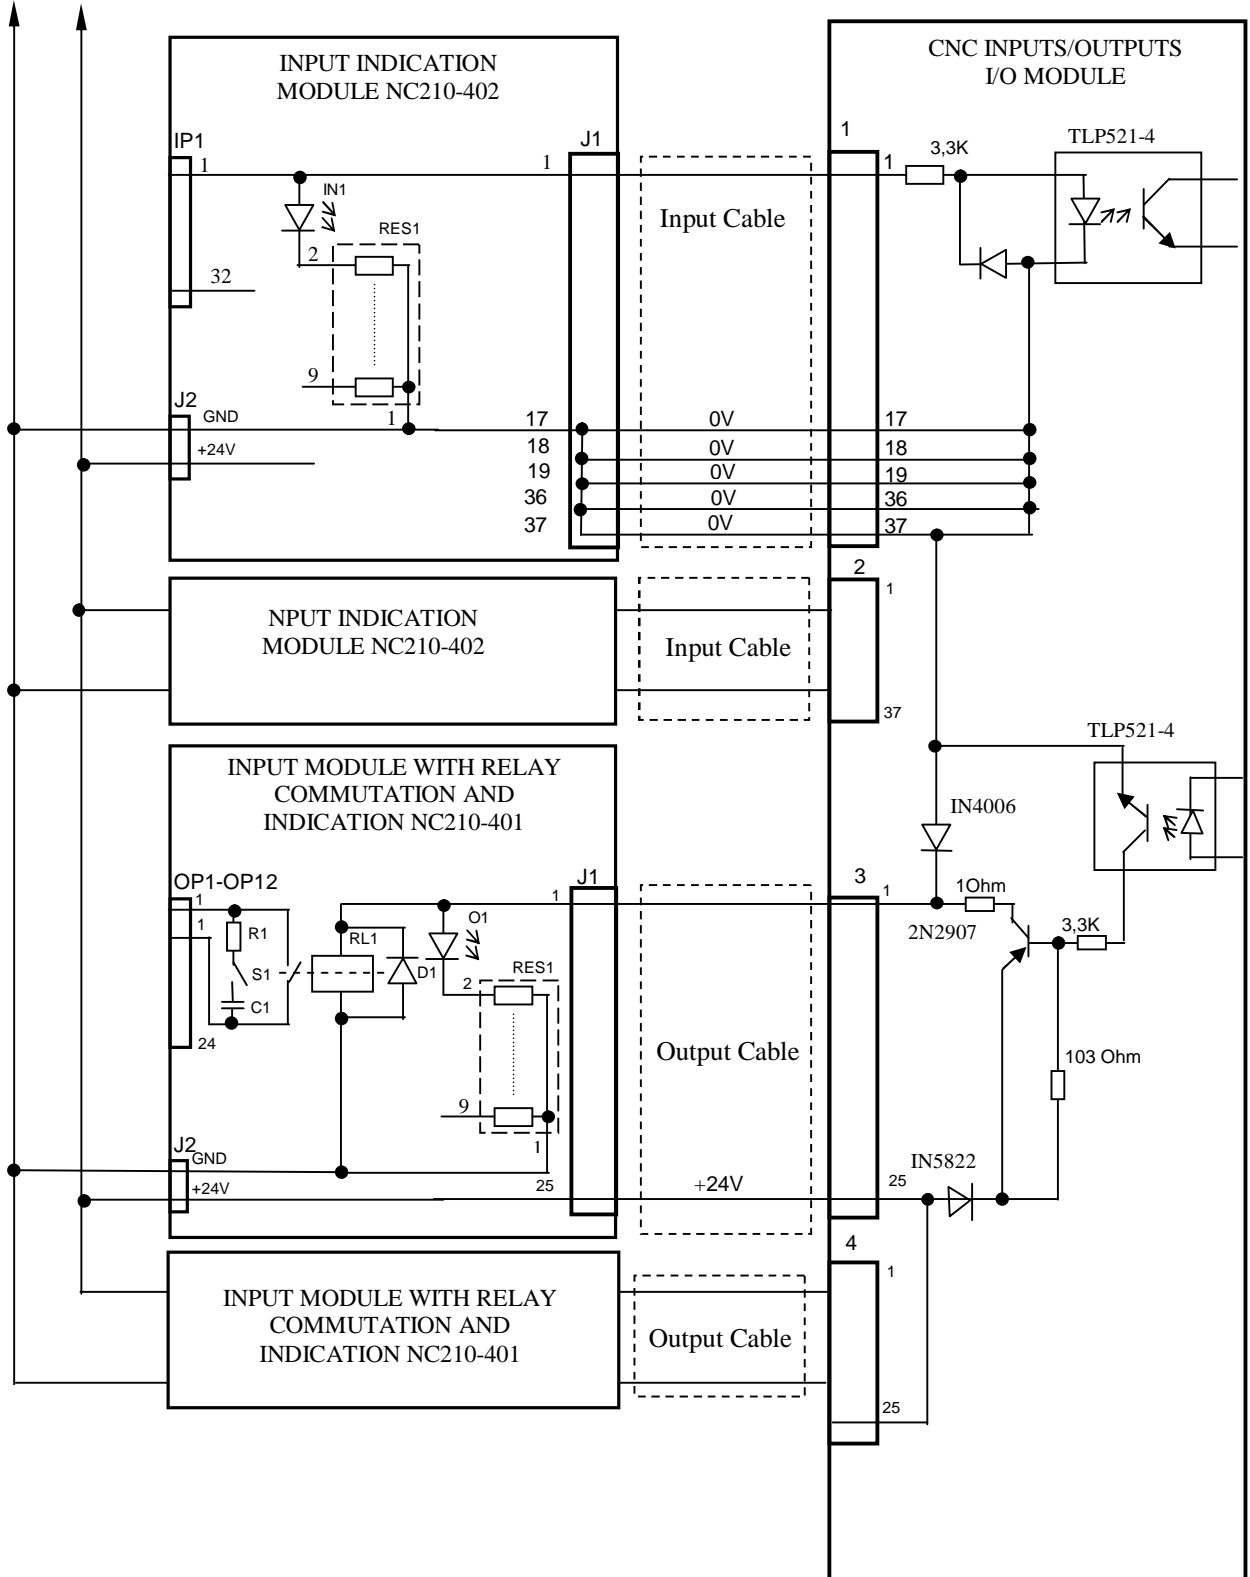

Figure D.2 – Diagram of Connections of the NC210-401 and NC210-402 Modules to the CNC Unit
14.3.4 The diagram showing the connection of the NC210-402 module to the CNC Unit is given in Figure D.2.
14.4.4 The diagram for the connection of the NC210-401 module to the CNC Unit is shown in Figure D.2.